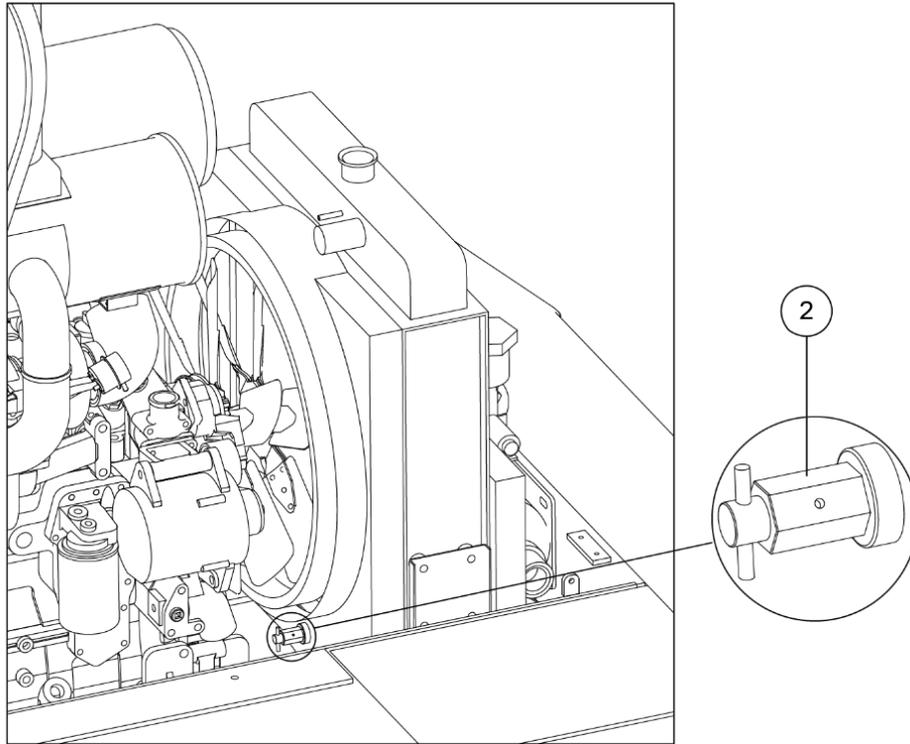

Figure 6-38 Water tank drain point
(1) Cap
Step 4: The coolant drain point is at the lower left corner of the radiator, open the drain valve(2) to drain the old coolant into container, as shown in Figure 6-38;